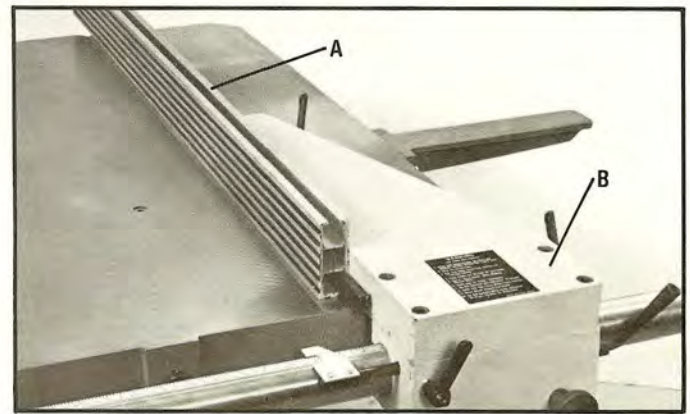
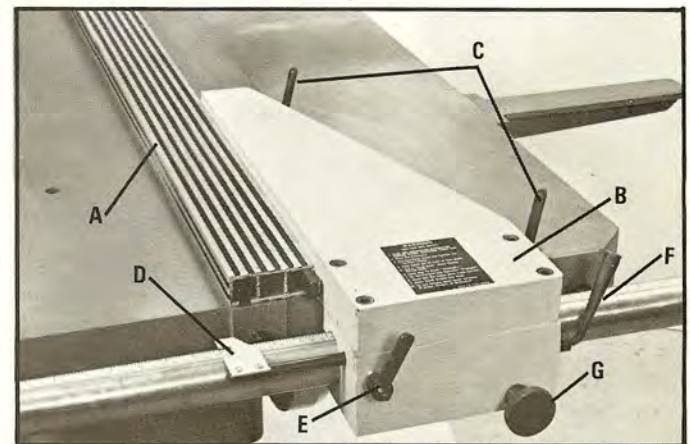

Fig. 42
Fig. 43
The aluminum rip fence (A), can be positioned in the vertical position as shown in Fig. 42, or in the horizontal position as shown in Fig. 43. The fence (A) Figs. 42 and 43, can be positioned lengthwise along the fence body (B) for various types of operations, by loosening clamp levers (C) Fig. 43, sliding fence to desired position and tightening levers (C).
The width of cut can be read at indicator (D) Fig. 43. Indicator (D) must be adjusted when using different types of blades or when the rip fence is changed from the horizontal to vertical or vertical to horizontal position. Loosen clamp lever (E) Fig. 43, adjust indicator to the correct position and tighten clamp lever (E).
The rip fence is locked in position when the locking lever (F) Fig. 43, is pushed down. For coarse adjustment of the fence, loosen locking lever (F) and push the fence along the guide rail. For fine adjustment of the fence, turn knob (G) right or left to position the fence exactly as desired. Tighten locking lever (F) after positioning the rip fence.